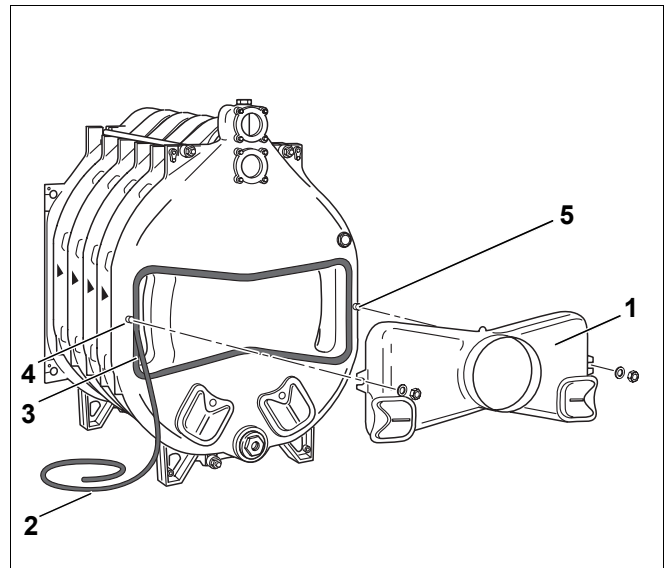

Fig. 24 Flue gas collector installation
Use sealing cord (Fig. 24, **Item 2**) as a gasket between the boiler and the flue gas collector (Fig. 24, **Item 1**).
- Firmly press the sealing cord into the groove. You must insert the packing cord so, that it lies in the lateral area of the groove (Fig. 24, **Item 3**).
- Position the flue gas collector onto both bolts at the rear section (Fig. 24, **Item 4 & 5**) and secure with washers and nuts.